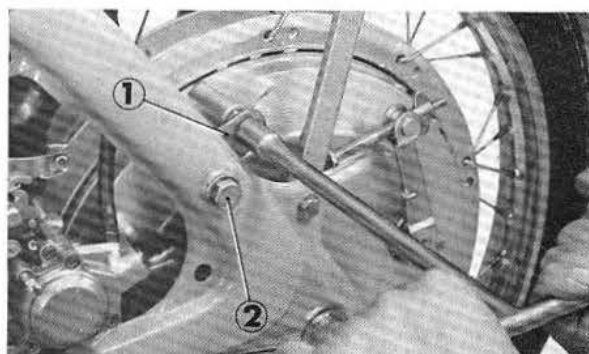

Fig. 2-3 ① Rear torque arm ② 8 mm bolt
8. Unscrew the rear torque arm attaching cap nut and 8 mm bolt. (Fig. 2-3)